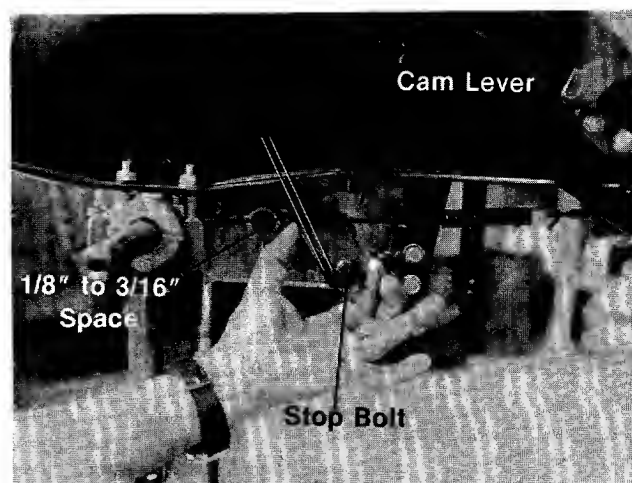

FIGURE 23.
- Loosen the inside nut until the cam lever can be pushed forward so that there is a 1/8" to 3/16" space between the cam lever and stop bolt. See figure 23.